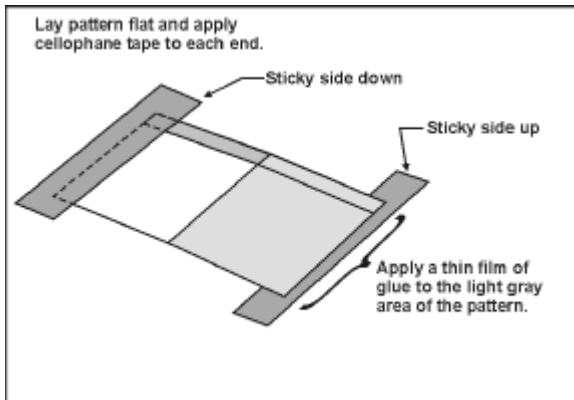

Figure 5
- Apply two lengths of cellophane tape to the ends of the Engine Tube pattern as shown in Figure 5, and described here. Each piece of tape should be an inch or two longer than the pattern is wide, so that there is ample overhang at each end of the tape. With the pattern printed side up, place one length of tape, sticky side down, at the end with the white background that has the area identified as "Second Glue Area". This tape should overhang the end of the pattern by half the width of the tape. Place the second length of tape, sticky side **UP**, at the other end, overhanging the end of the pattern as before. Now, apply a thin film of glue to the entire light gray area identified as "First Glue Area" then quickly move onto Step 6.